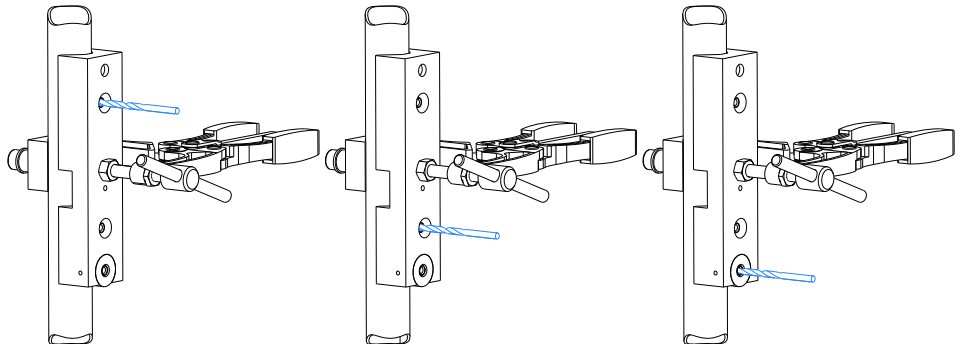
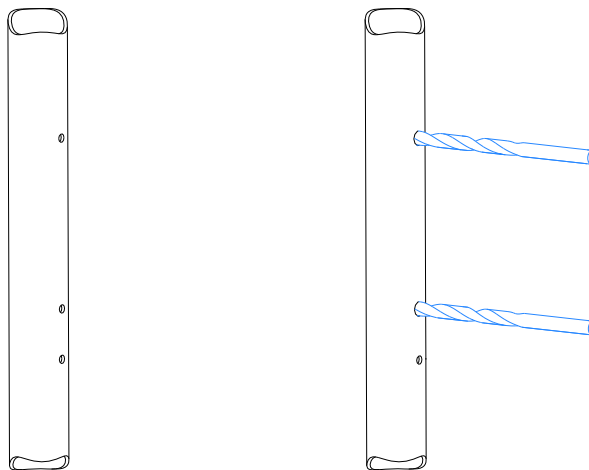
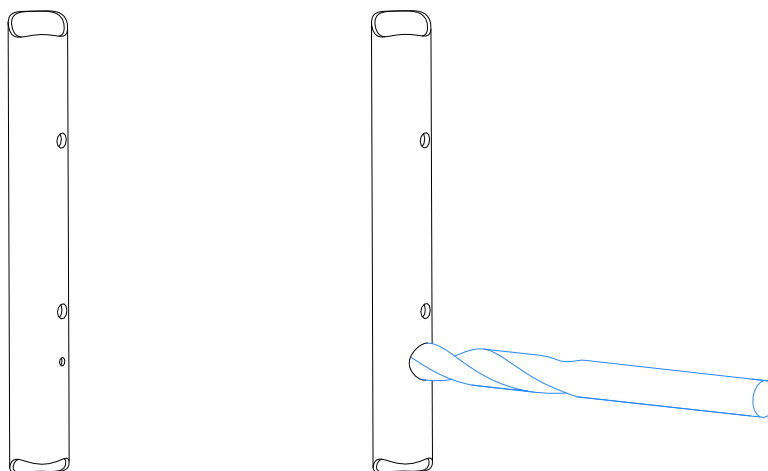
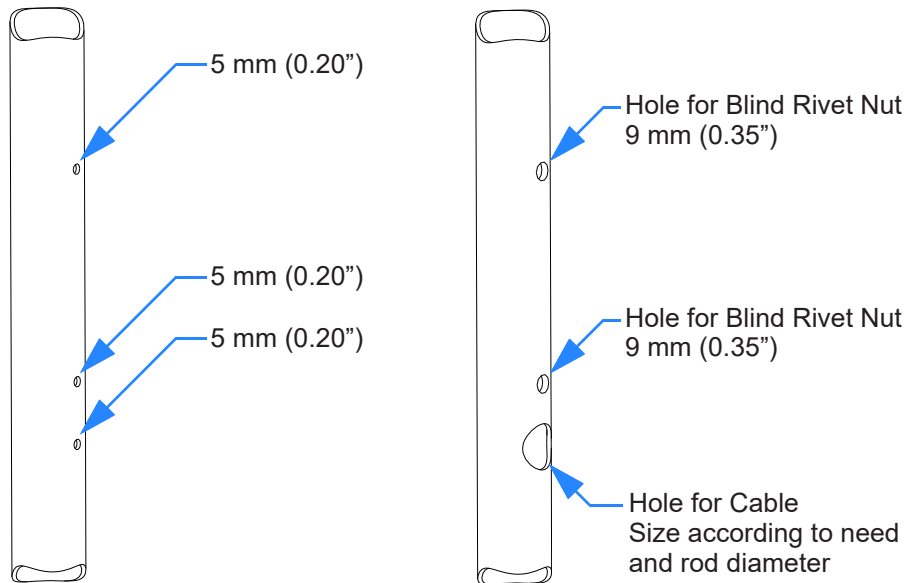

Figure 3-54 Pre-drilling
Figure 3-55 Drilling for blind rivet nuts
Figure 3-56 Drilling for cable entry
Figure 3-57 Mounting holes
Drill the 5 mm (0.20") holes for the pop rivet nuts and the cutout for the cable in the rod (see **Figure 3-54** and **Figure 3-57**).
Step 3 Enlarge the 5mm (0.20") blind bid nut holes (top two holes) to 9mm (see **Figure 3-55** and **Figure 3-57**).
Step 4 Enlarge the 5mm (0.20") cable entry hole (bottom hole) as needed for the existing cable using a suitable drill bit (see **Figure 3-56** and **Figure 3-57**).